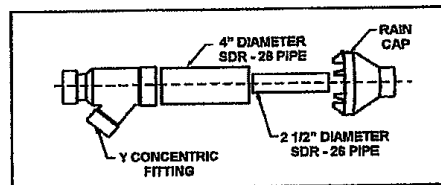

Figure 1.
- a) Cement Y concentric fitting to larger diameter kit pipe. See Figure 1.
- b) Cement rain cap to smaller diameter kit pipe. See Figure 1.